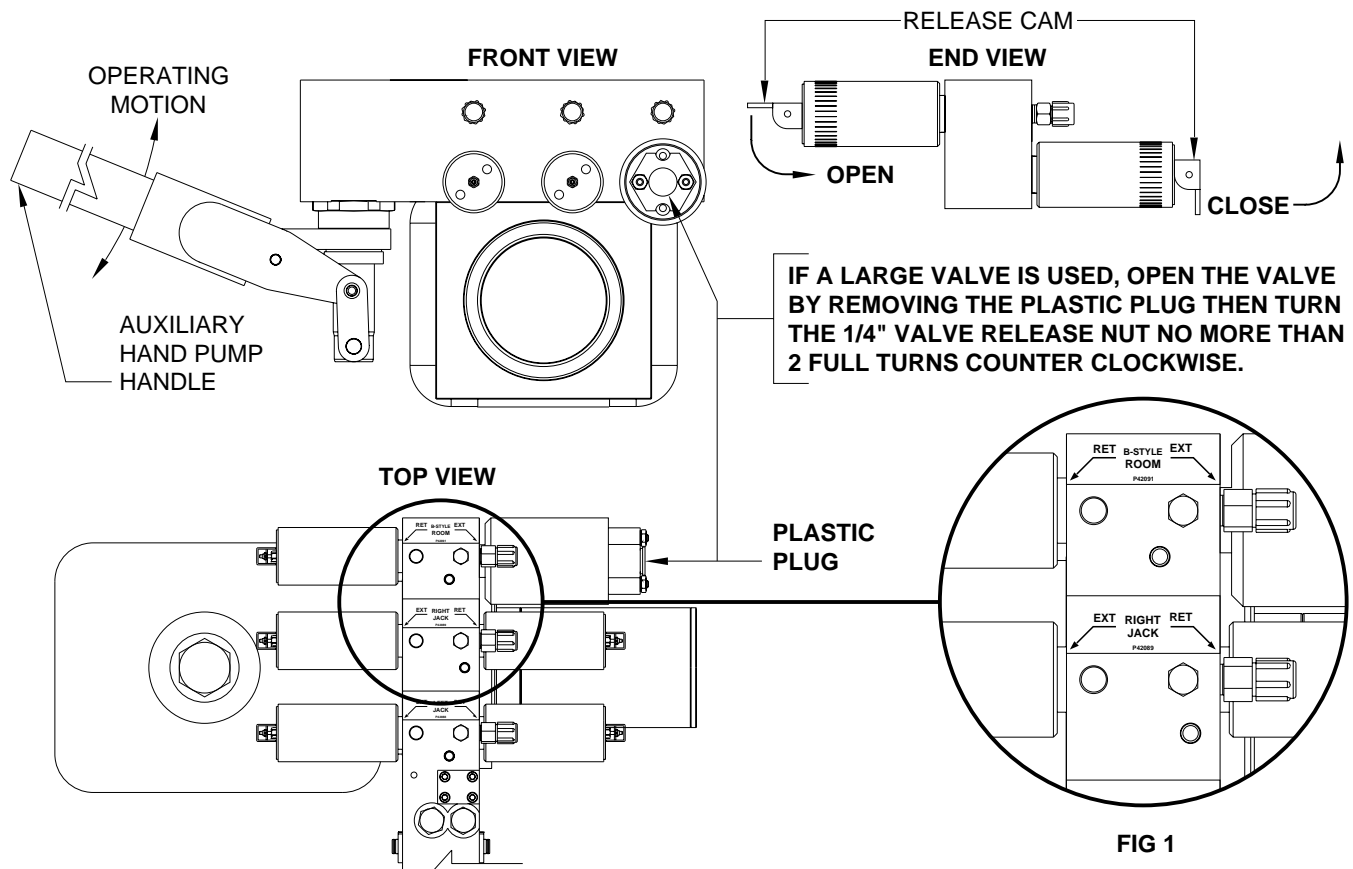

FIG 1
**NOTE:** Each hydraulic function requires a pair of solenoid valves one each for the extend and retract procedures. The number of functions and the items controlled by each pair of solenoid valves will vary for each system. The diagrams shown on this page represent a (3) function system of (2) jacks and (1) room as indicated by the labels shown in FIG 1. Use the labels specific to your system when following these procedures. Room control solenoid valves may be located at the synchronizing cylinder, not on the pump manifold.